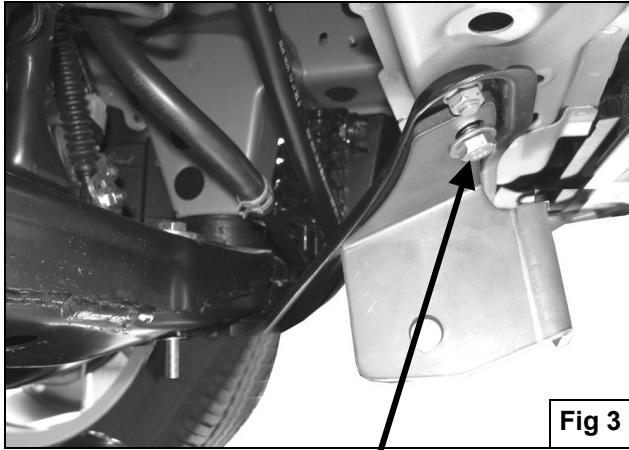

Fig 3
3. On the top of the driver side cross member bar there is a factory suspension dampener obstructing the mounting location for the driver side Support Bracket. Use a 10mm socket to remove the two factory bolts holding the suspension dampener from the top of cross member (**Figure 1**). Once you have removed the suspension dampener, insert from the top of the cross member (1) 12mm x 90mm Bolt Plate (**Figure 3**). Re-install the suspension dampener over Bolt Plate using the factory hardware.
4. On the driver side of the vehicle, locate the two factory bolts on the cross member brace towards the bumper and remove the one towards the outside of the vehicle. Position the driver side Mounting Bracket up to the cross member brace. Partially hang Mounting Bracket to previously removed factory bolt location using the included (1) 10-1.25mm x 35mm Hex Head Bolt and (1) 10mm Flat washer (**Figure 3**). Do not tighten at this time.
5. Repeat steps 3 & 4 for passenger side. **NOTE:** On the passenger side cross member bar you will be using (1) 12mm x 90mm Hex Head Bolt, (1) 12mm Fender Washer (on top), (1) 12mm Flat Washer (on bottom), and (1) 12mm Nylock Nut instead of a Bolt Plate since there is no suspension dampener.
8. From the bottom of the cross member bar, place Lower Support Bracket over previously inserted Bolt Plate and secure it using the included (1) 12mm Nylock Nut and (1) 12mm x 29mm x 3mm Flat Washer (**Figure 3**). Do not tighten at this time.
9. Attach opposite end of Lower Support Bracket to Mounting Bracket using the included (1) 12mm x 30mm Hex Head Bolt, (1) 12mm Nylock Nut, and (2) 12mm Flat Washers (**Figure 3**). Do not tighten at this time.